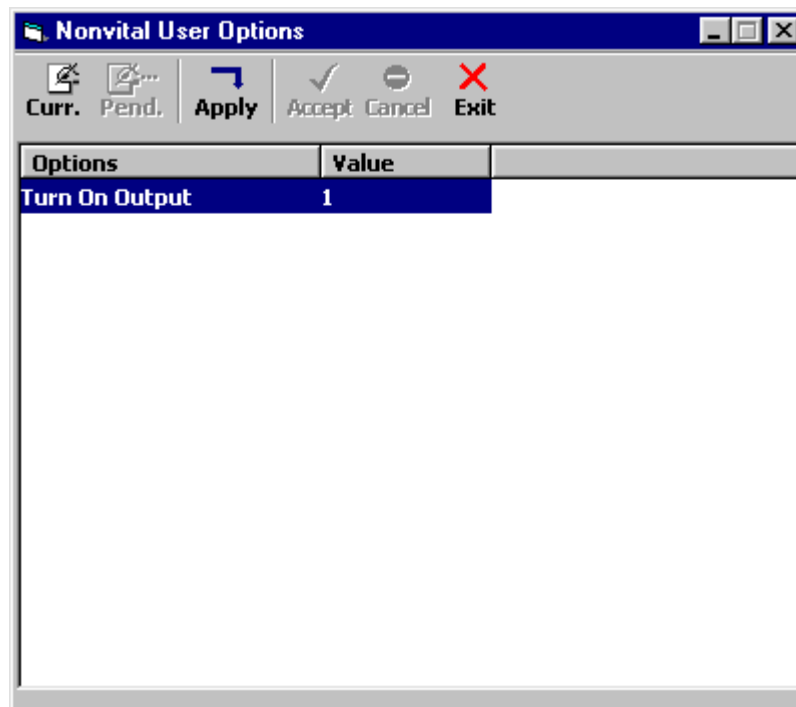

Figure 2-12
2. Click on the **Configure** menu. If any Vital or Non-vital User Options, User I/O, or User Timers are configured, click on them to display the window (see example for Nonvital User Options in figure 2-12).
4. Click on the “Value” field of the desired option to display the Current Options list control box (refer back to figure 2-12) and click on the down arrow button (▼) to display the drop-down options list. The current selection is highlighted (see detail below).